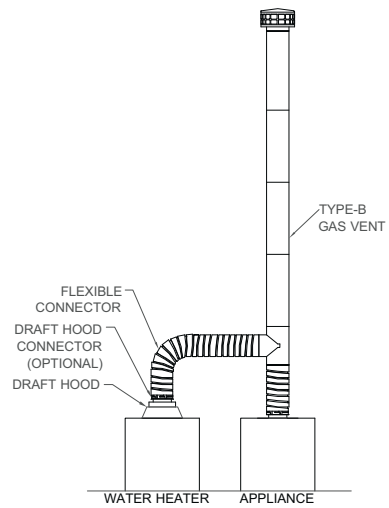

FIG. 5
- b. Multiple appliances (See FIG. 5).